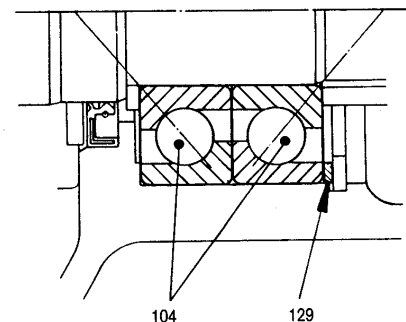

Figure 7: Two single-row angular contact ball bearings with shim rings
Both bearings have to be pressed into the bearing bracket (110) in **O-type arrangement** and adjusted without play via the shim rings (129) (see figure 7).